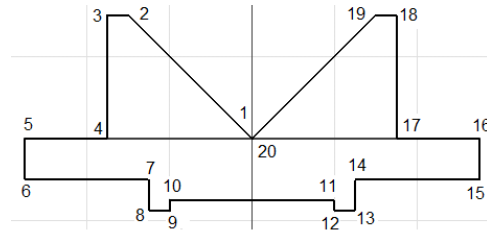

Figure 2-64 Sketch for Tutorial 1
*The angular and linear dimensions have not been shown in Figures 2-64 for clarity of sketches. You can control the display of the linear and angular dimensions of the sketch. To do so, choose **Application Options** from the **Options** panel of the **Tools** tab; the **Application Options** dialog box is displayed. In the **Sketch** tab of the **Application Options** dialog box, choose the **Settings** button from the **Constraint Settings** area; the **Constraint Settings** dialog box is displayed. Clear the **Create dimensions from input values** check box in the **Dimension** area of the **Constraint Settings** dialog box and then choose **OK**. Next, choose the **Apply** and **Close** buttons from the **Application Options** dialog box to turn off applying dimensions automatically while sketching.*
9. Now, you need to create the third line between points 3 and 4, refer to Figure 2-64. To do so, move the cursor downward in the graphics window. Enter **3** in the length input field,
10. Move the cursor toward left in the graphics window. Enter **2** in the length input field, press TAB to switch to the angle input field, and enter **90** in it, and then press ENTER; a line is created between points 4 and 5, refer to Figure 2-64.
11. Move the cursor downward in the graphics window. Enter **1** in the length input field, press TAB, and enter **90** in the angle input field and then press ENTER; a line is created between points 5 and 6, refer to Figure 2-64.
13. Move the cursor downward in the graphics window. Enter **0.75** in the length input field, press TAB, and enter **90** in the angle input field and then press ENTER; a line is created between points 7 and 8, refer to Figure 2-64.
14. Move the cursor toward right in the graphics window. Enter **0.5** in the length input field, press TAB, and enter **90** in the angle input field and then press ENTER; a line is created between points 8 and 9, refer to Figure 2-64.
15. Move the cursor upward in the graphics window. Enter **0.25** in the length input field, press TAB, and enter **90** in the angle input field and then press ENTER; a line is created between points 9 and 10, refer to Figure 2-64.
16. Move the cursor toward right in the graphics window. Enter **4** in the length input field, press TAB, and enter **90** in the angle input field and then press ENTER; a line is created between points 10 and 11, refer to Figure 2-64.
17. Move the cursor downward in the graphics window. Enter **0.25** in the length input field, press TAB, and enter **90** in the angle input field and then press ENTER; a line is created between points 11 and 12, refer to Figure 2-64.
18. Move the cursor toward right in the graphics window. Enter **0.5** in the length input field, press TAB and enter **90** in the angle input field and then press ENTER; a line connecting points 12 and 13 is created, refer to Figure 2-64.
19. Move the cursor upward in the graphics window. Enter **0.75** in the length input field, press TAB, and enter **90** in the angle input field and then press ENTER; a line connecting points 13 and 14 is created, refer to Figure 2-64.
20. Move the cursor toward right in the graphics window. Enter **3** in the length input field and **90** in the angle input field and then press ENTER; a line connecting points 14 and 15 is created, refer to Figure 2-64.
21. Move the cursor upward in the graphics window. Enter **1** in the length input field, press TAB, and enter **90** in the angle input field and then press ENTER; a line connecting points 15 and 16 is created, refer to Figure 2-64.
22. Move the cursor toward left in the graphics window. Enter **2** in the length input field, press TAB, and enter **90** in the angle input field and then press ENTER; a line connecting points 16 and 17 is created, refer to Figure 2-64.
23. Move the cursor upward in the graphics window. Enter **3** in the length input field, press TAB, and enter **90** in the angle input field and then press ENTER; a line connecting points 17 and 18 is created, refer to Figure 2-64.
24. Move the cursor toward left in the graphics window. Enter **0.5** in the length input field, press TAB, and enter **90** in the angle input field and then press ENTER; a line connecting points 18 and 19 is created, refer to Figure 2-64.